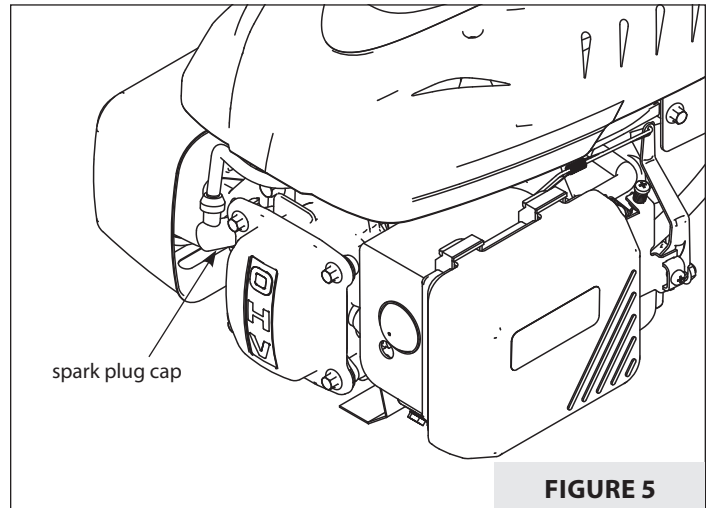

FIGURE 5
1. Detach spark plug wire and move away from spark plug. If the engine uses a battery, disconnect at negative terminal. **SEE FIGURE 5.**
The recommended spark plug is a DK7RTC. The spark plug is located to the left of the valve cover. **SEE FIGURE 5.**